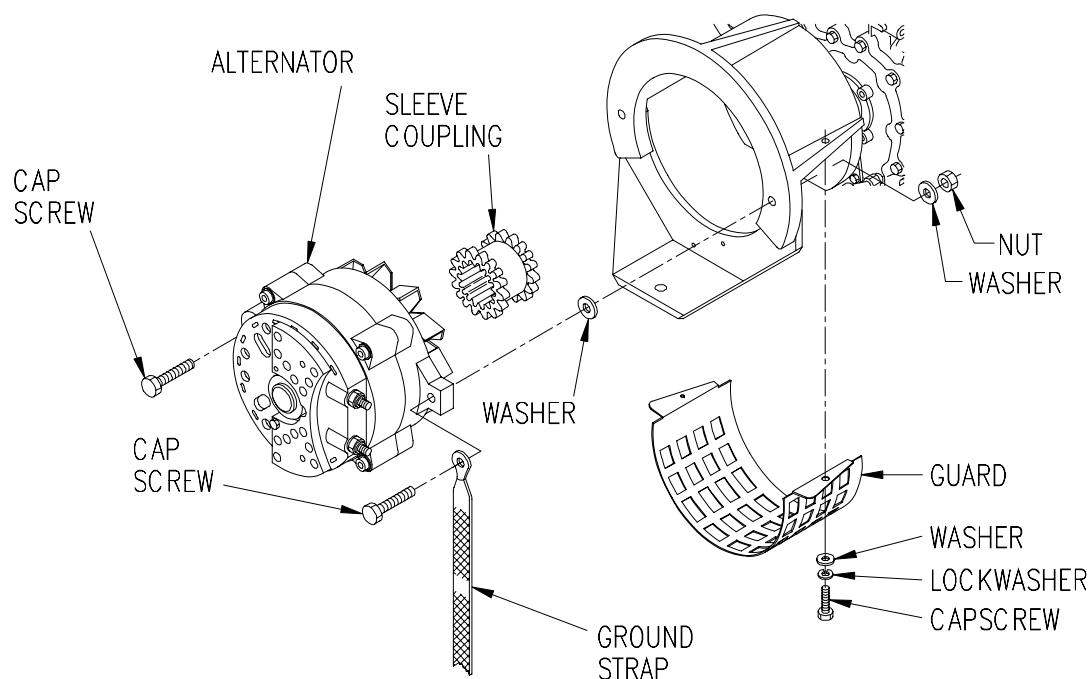

Figure 4-6. Alternator Flexible Coupling (MEP-501A)
- (1) Shut down generator set.
- (2) Remove control panel assembly, refer to paragraph 4.20.b.
- (3) Remove capscrews (Figure 4-6), lockwashers, washers, and guard from engine adapter.
- (4) Support rear of alternator. Then remove self-locking nuts, washers, capscrews, and ground strap, securing alternator to engine adapter. Carefully remove alternator and sleeve coupling.
- (1) Position and support alternator (Figure 4-6) with sleeve coupling to engine adapter. Ensure that external teeth on sleeve coupling engage the internal teeth of alternator and engine crankshaft flexible flange couplings.
- (2) Secure alternator to engine adapter with capscrews, washers, and new self-locking nuts ensuring that ground strap is secured under capscrew head on right side. Torque self-locking nuts to 18 lbs-ft (24.4 Nm).
- (3) Install guard with capscrews, lockwashers, and washers.
- (4) Install control panel assembly, refer to paragraph 4.20.d.